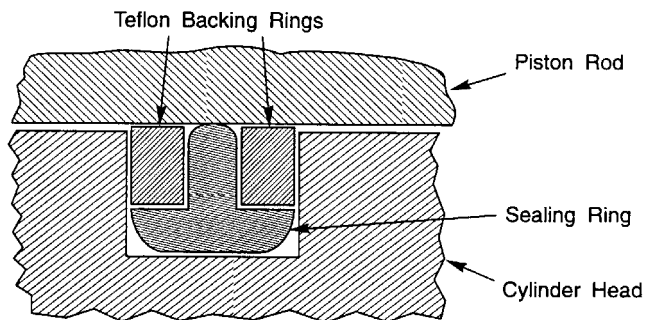

Figure 1 –Piston Rod Seal and O-ring Placement
1. Lubricate, then install the piston rod seal as shown in Figure 1. The backup rings are cut with a bevel; be sure the ends match up and do not overlap.